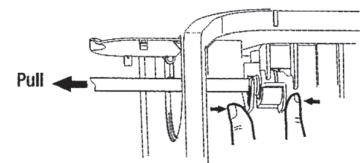

Figure 4
- Method 2: Slide out the bucket, pinch the "PUSH" button by the finger (do not release) as the image shows. In the meantime pull the drain hose out, cover the connector cover, and reinstall the bucket. (Figure 4)